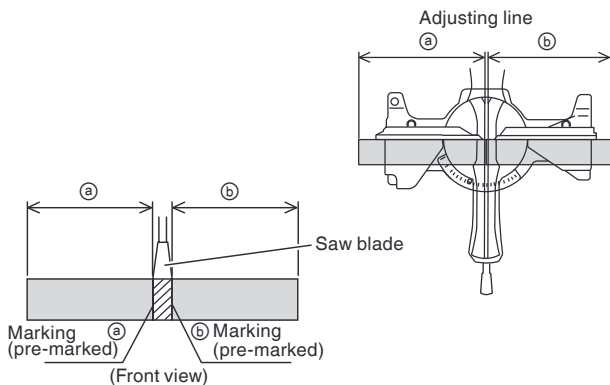

Fig. 24
- (1) As shown in Fig. 24 the width of the saw blade is the width of the cut. Therefore, slide the workpiece to the right (viewed from the operator's position) when length **b** is desired, or to the left when length **a** is desired.